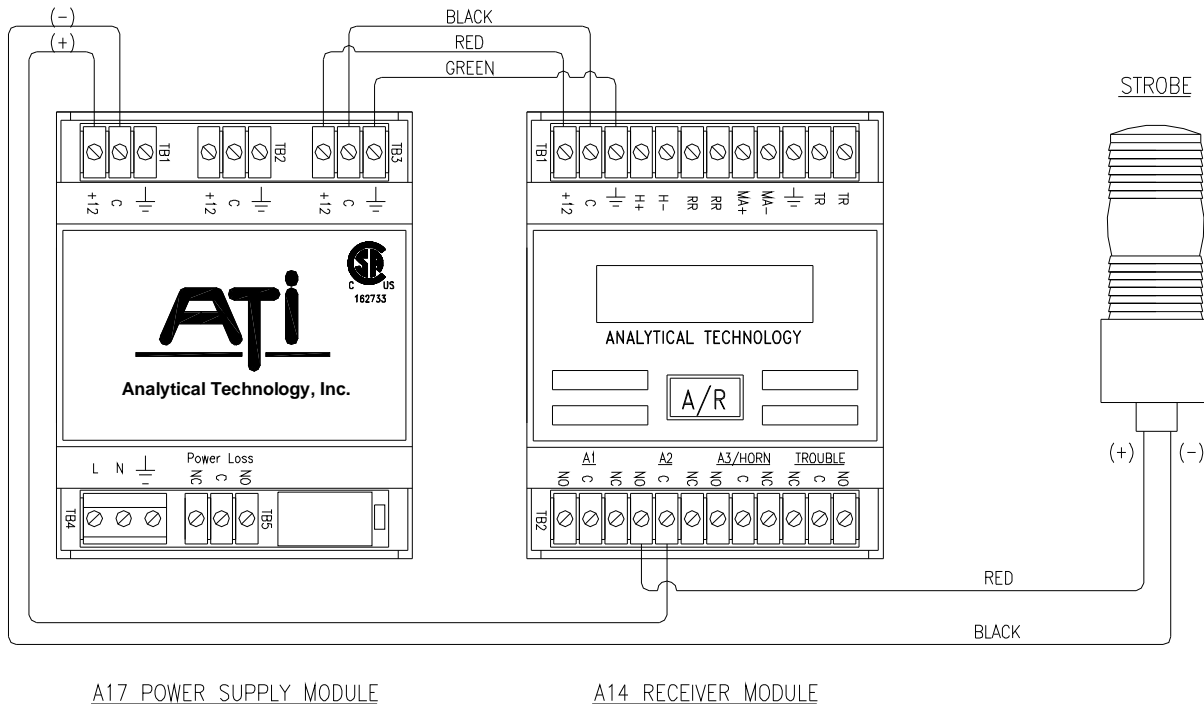

Figure 4-2: External Strobe Light Connections (ATI-0240)
The 12 VDC power to operate the strobe can be picked up from the power supply module which is part of the alarm unit. Figure 4-2 shows the typical wiring diagram for connection of the strobe. The wiring diagram shows the plus side of the 12 VDC supply brought to the common of the alarm contact, one side of the strobe wired to the normally open (NO) contact, and the other side of the strobe connected to the minus side of the 12 VDC supply. Connection of the strobe lamp directly across the alarm relay will not operate the strobe because alarm contacts are unpowered.